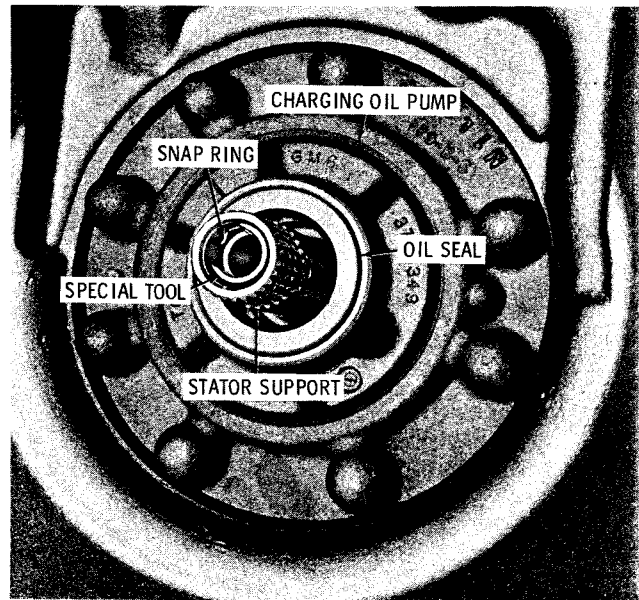

Fig. 7-4. Special tool engaging converter snapping (TC 250)
(2) Install the special tool (fig. 4-4) into the stator support (fig. 7-4).